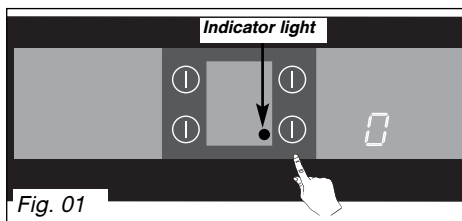

Fig. 01
– Select an unused cooking zone. **0** and the indicator for the selected zone are displayed (Fig. 01).